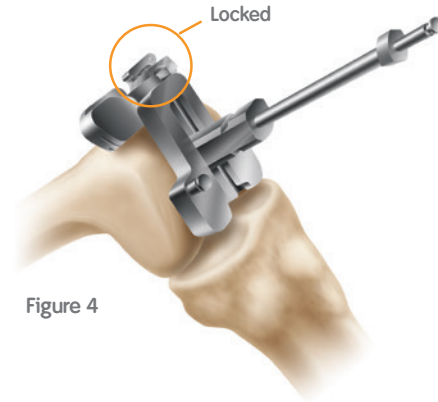

Figure 4
- 2 Slide the intramedullary rod of the assembly into the femoral canal until the alignment guide contacts the distal femur (Figure 4).